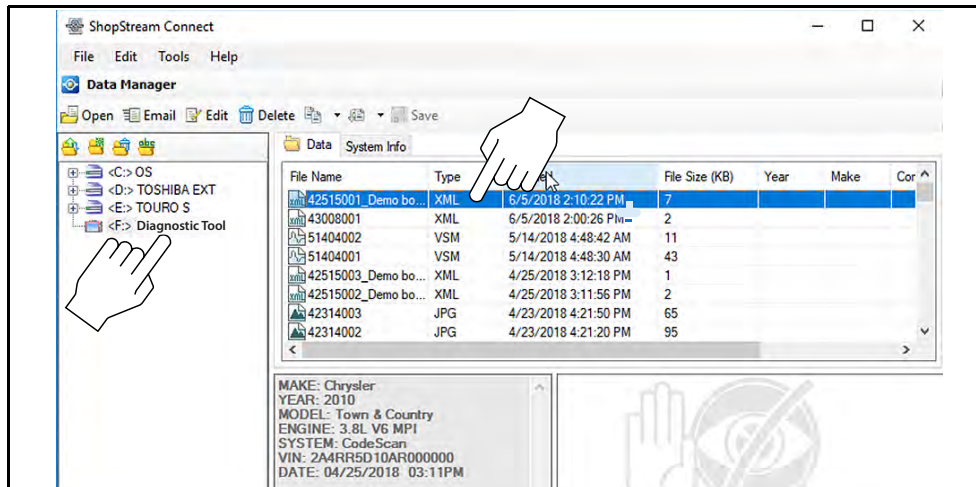

Figure 16-5
1. Double-click the code scan .XML file from the file list to open the Vehicle System Report (Figure 16-5) in the Code Scan Viewer (Figure 16-6).